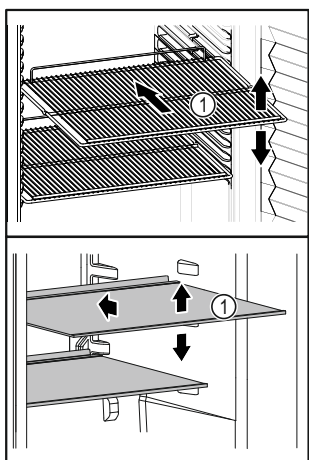

Fig. 88 Example illustration
- ❑ If shelves Fig. 88 (1) can be moved, adjust the shelves according to the height.